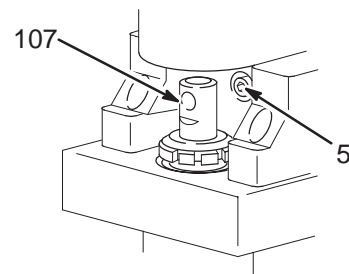

Fig. 20
4. Remove the front cover (13).
5. Turn the displacement pump rod (107) so the pin hole aligns with the bottom drive housing screw (5). See Fig. 20. Remove the three drive housing screws (5). Also see Fig. 21.
6. Remove the two motor screws (5).
7. Tap the lower rear of the drive housing (11) with a plastic mallet to loosen the motor. Pull the drive housing straight off the motor while guiding the harness (A) from the motor. Do not allow the gear (16) to fall. Read the CAUTION on page 24.
8. Remove the two screws (46) and lift the motor off the base (66).
9. Align the new motor with the base and reinstall the screws (46).